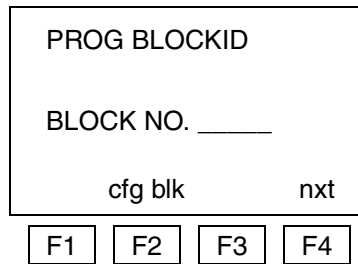

Figure 110. Block ID Configuration Screen
5. Press F1 (PROG BLOCKID) and the screen shown in Figure 110 is called up.